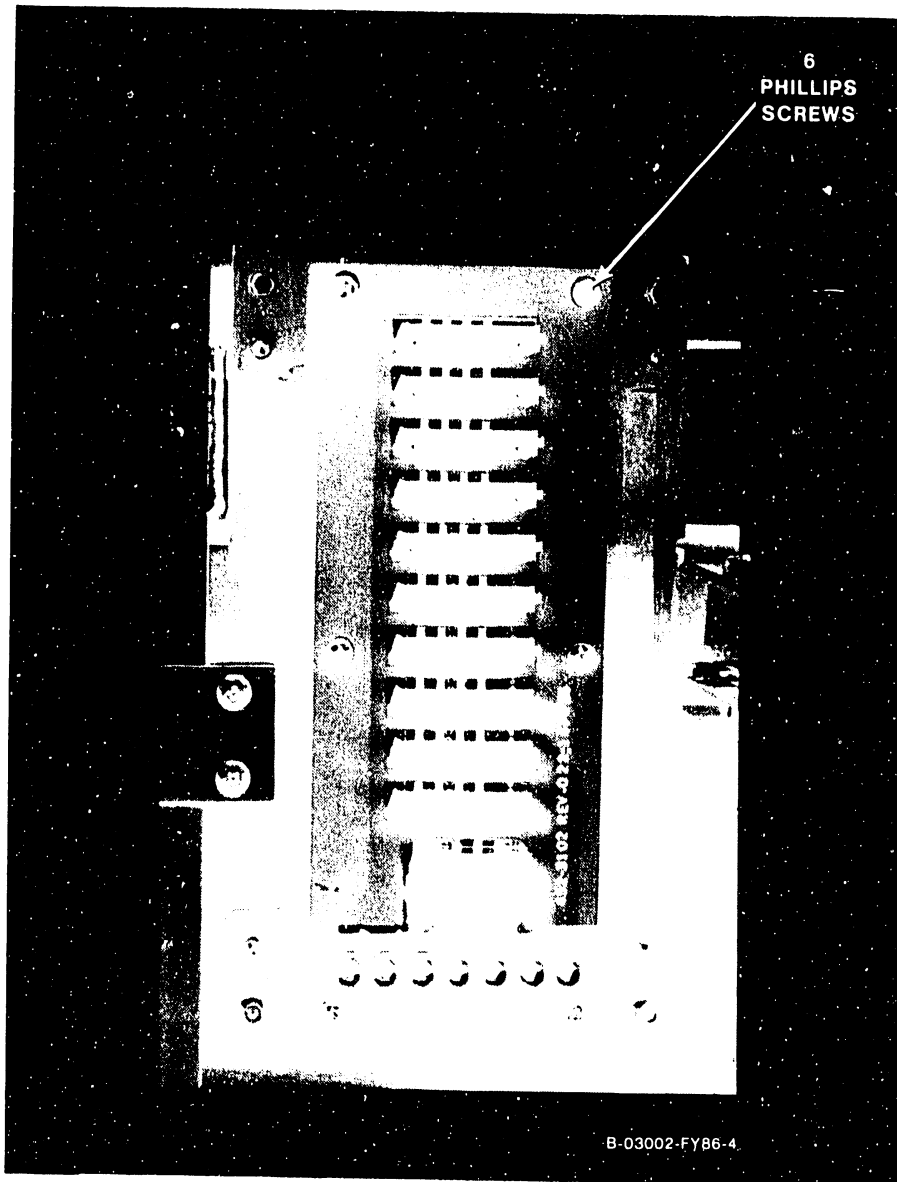

Figure 5-48b. Second DC Distribution Board Removal
9. Remove the six Phillips screws from the board standoffs, (figure 5-48b) and remove the board.